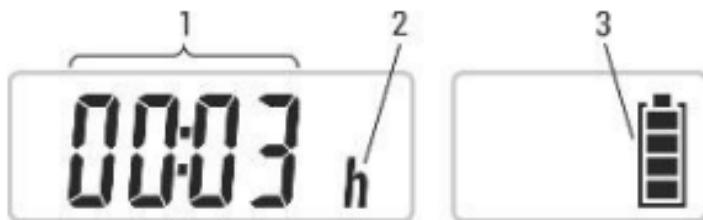

Figure 2.8 – LCD of the dosimeter
2.3.3.9.2 The following information is displayed on the dosimeter's LCD (Figure 2.8):